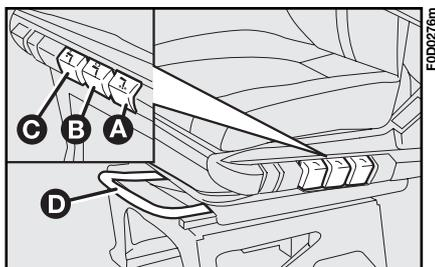

fig. 56
Use button **A**-fig. 56.
- press button **B**-fig. 56 to rotate the seat.
Use button **C**-fig. 56 to raise/lower the seat.
Lift lever **D**-fig. 56 and push the seat backwards or forwards.